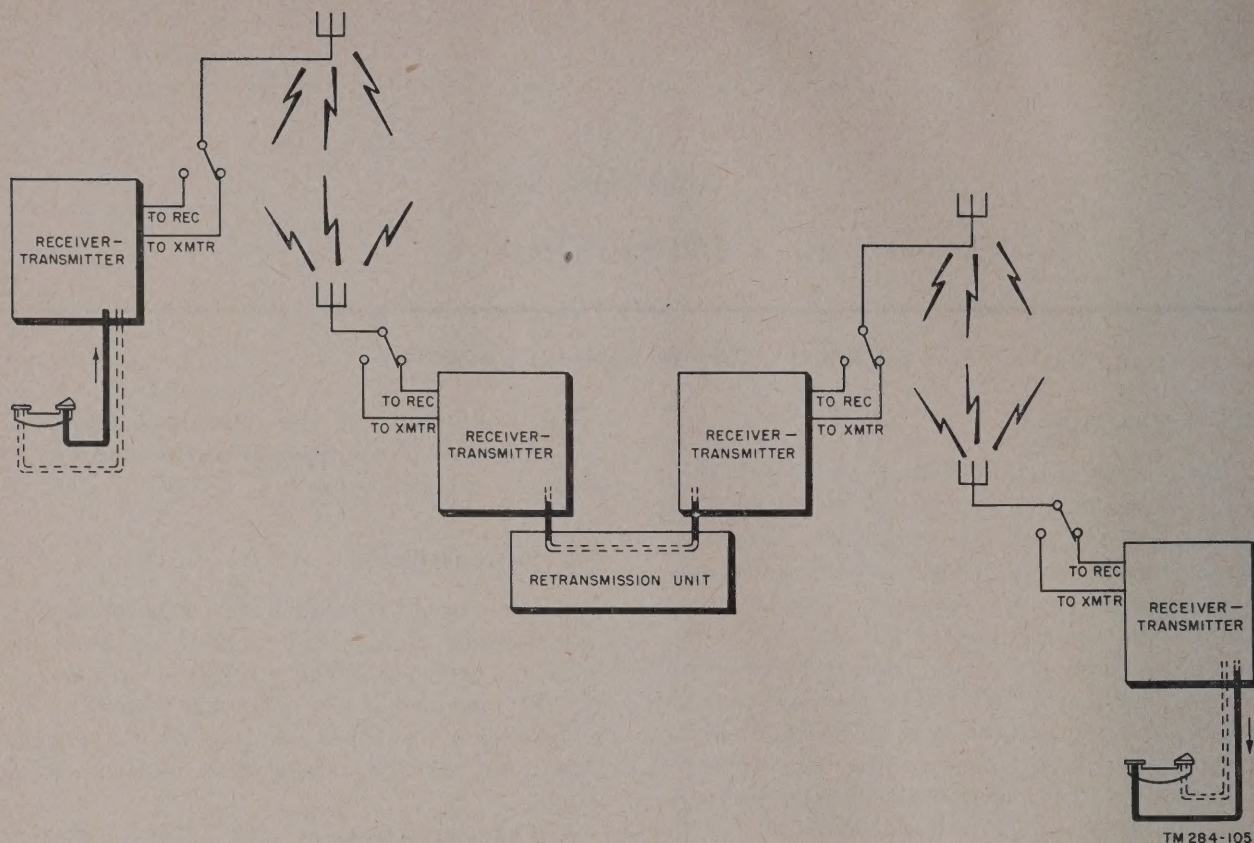

Figure 37. Retransmission system, block diagram.
a. Facilities are provided for retransmission of any received signal. When these facilities are used, the radio set acts as a relay or repeater station between two other radio sets (fig. 37). Retransmission facilities are important tactically since they provide extension of communication range.